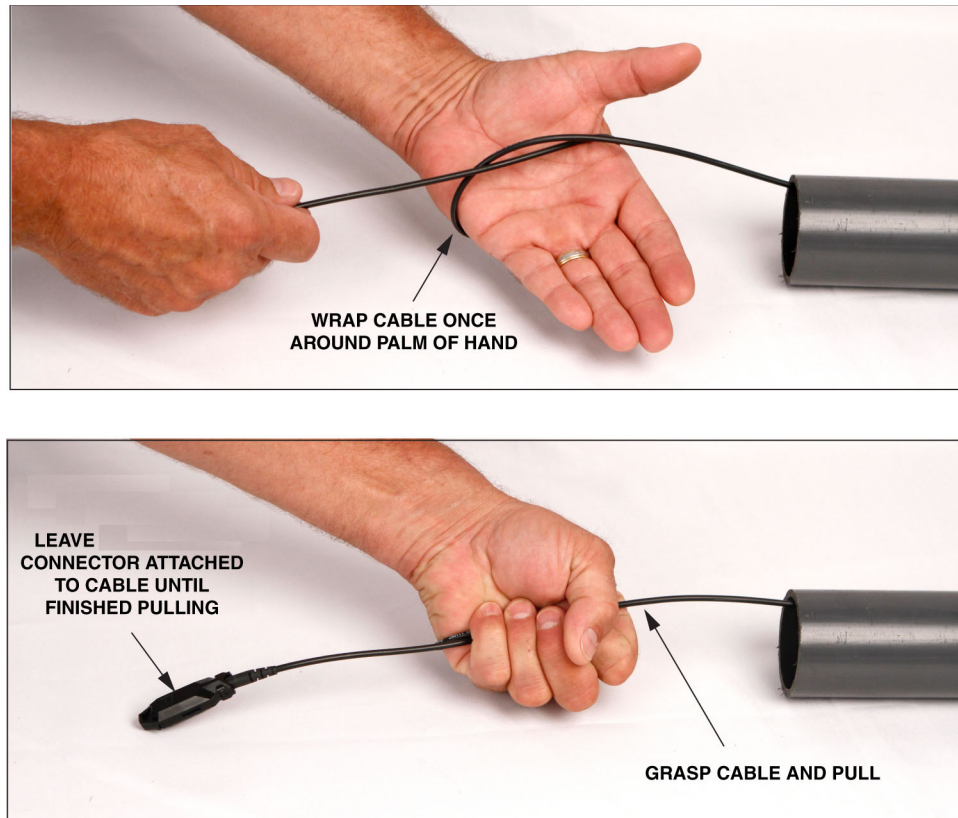

Figure 7. Hand-Wrap Method
► **Note:** Do not pull on the connector directly. Use either the pulling swivel mesh as shown or wrap the lead end of the cable around your hand as described in Figure 7 on Page 5.
7. At the conduit exit location, remove the tape, mesh, and pulling swivel from the leading connector pulling eye(s), and use the hand-wrap method shown in Figure 7 to pull the cable to the point where the cable will be terminated.